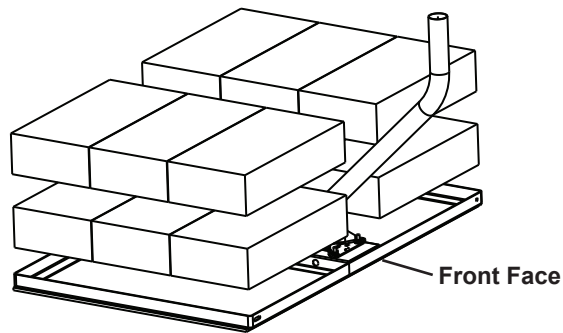

Figure 3
9. Install the proper amount of ballast on the frame according to Table 1. The ballast should be distributed evenly. See Figure 3.